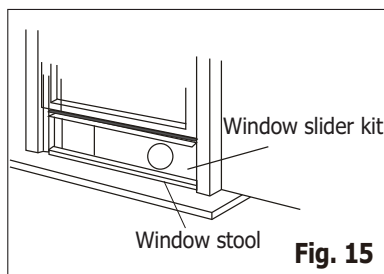

Fig. 15
4. Close the window sash securely against the window slider kit. (Fig. 15)